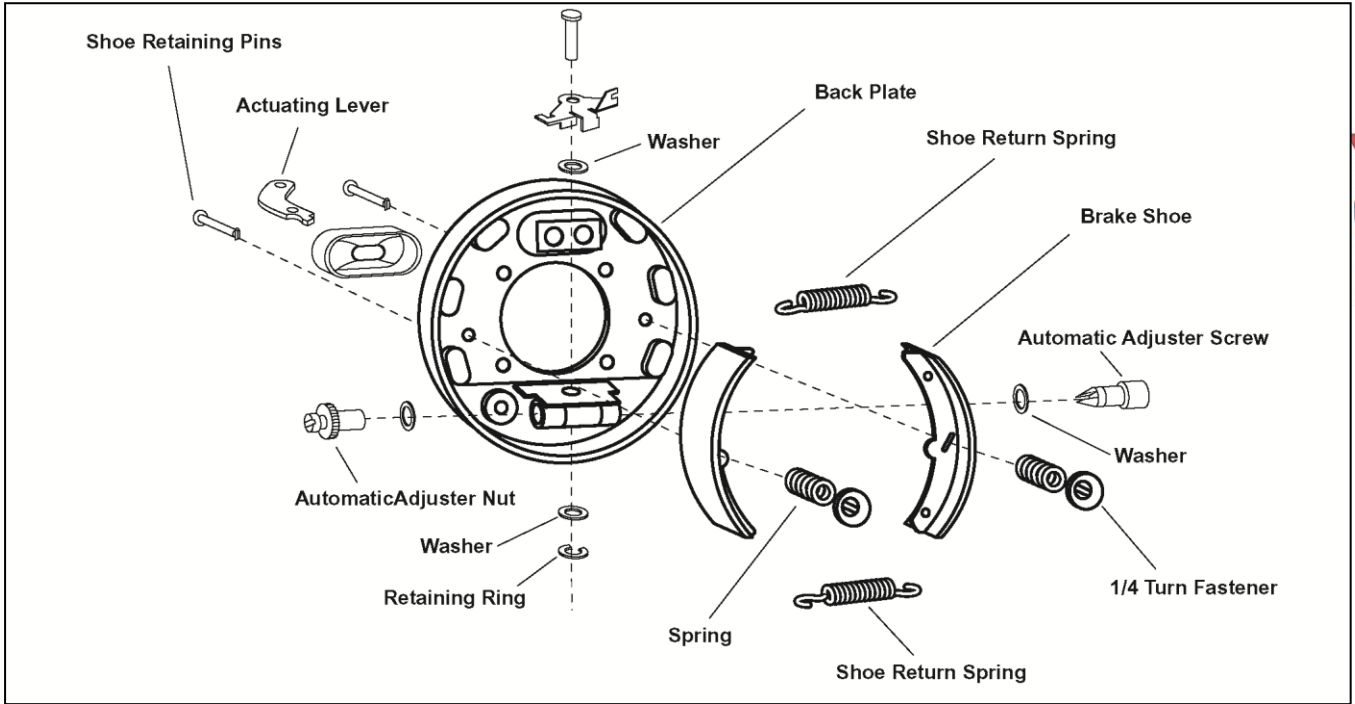

Figure 5-2
- Refer to Figure 5-2 for steps 3 - 7.
3. See Figure 5-2. With the springs attached to the brake shoes, hook bottom of each brake shoe, one at a time, into slots on automatic adjuster screw and opposing retainer. Next, hook top end of each brake shoe behind anchor at the top of brake plate. Fold ends of shoes inward towards brake plate. Secure them in place with brake shoe pins, retainer springs and 1/4 turn fasteners.